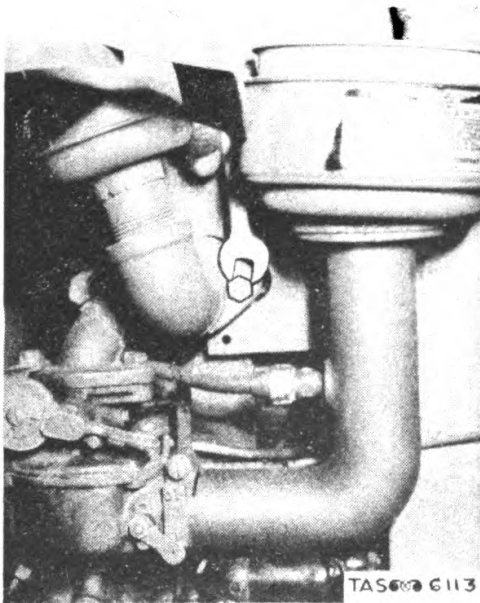

Fig. 114. Removing Carburetor Mounting Cap Screws Holding Manifold.
- disengage manifold. (See fig. 114.)